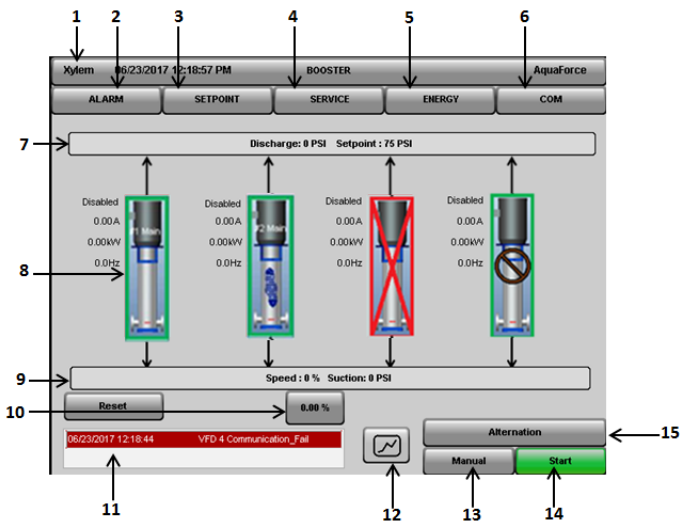

Figure 5.1.1 – Home Screen
1. **Automatic Mode:** Tap on **[manual]** button shown in Figure 5.1.1 (13). The system will enter into auto mode and the text on **[Manual]** Button will change to **[Automatic]** and it will be highlighted as shown in Figure 5.1.9
In manual mode, the button for manual Speed control of pump becomes visible as shown in Figure 5.1.1 (10).
- **System Start/Stop:** It shows the command which can be performed by using this button (i.e. If it is showing “Start” then user can use this button to start the system and if it shows “Stop” then user can use this button to stop.). This button is shown in Figure 5.1.1 (14).
- **Manual Alternation:** This button can be used to alternate pump sequence in automatic operation mode. When alternation method is selected on pump run hour base, this button gets disabled. This button is shown in Figure 5.1.1 (15).